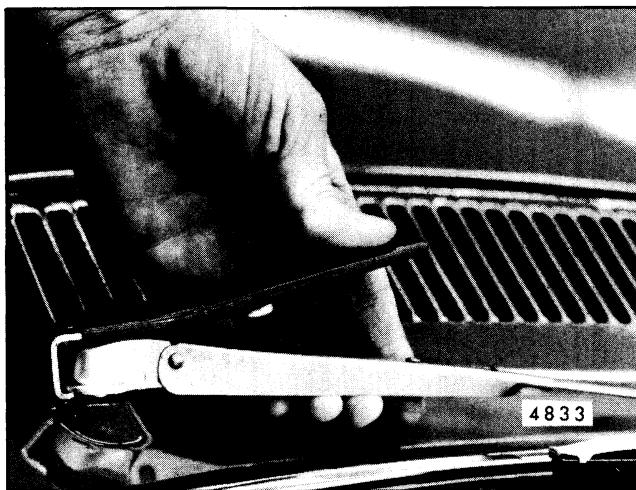

Fig. 2-34-Wiper Arm Removal Tool J-8966
2. On "A" and "F" styles, use tool J-22128 or J-8966, or equivalent, (Fig. 2-34 or 2-35) and lift